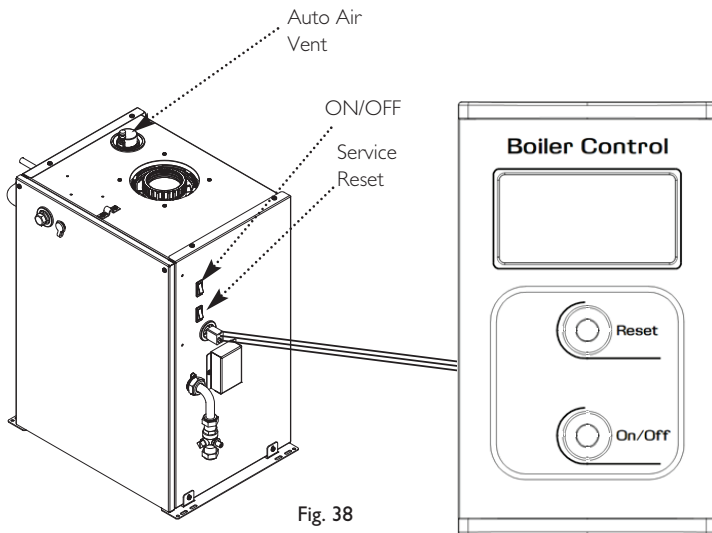

Fig. 38
2. Take the Boiler Control from the firefront packaging and connect it to the boiler (Fig. 38).
**IMPORTANT:** The heat exchanger air vent on top of the boiler (Fig. 38) **MUST** be opened before filling the primary system.